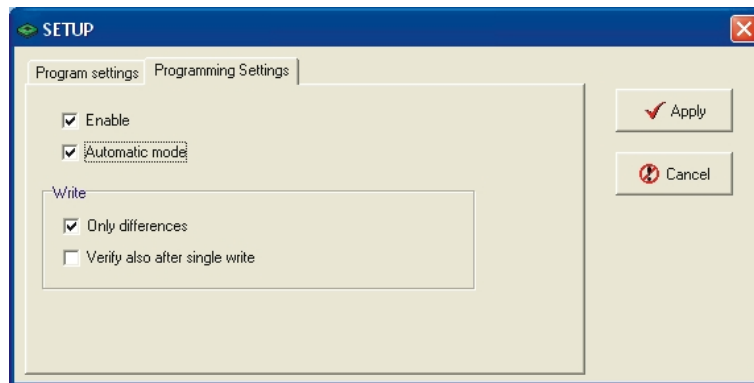

Fig. 30 - Setup dialogue window: Programming Settings board.
7. Click on the **Programming Settings** board and then select the **Automatic mode** check box (see Fig. 30).